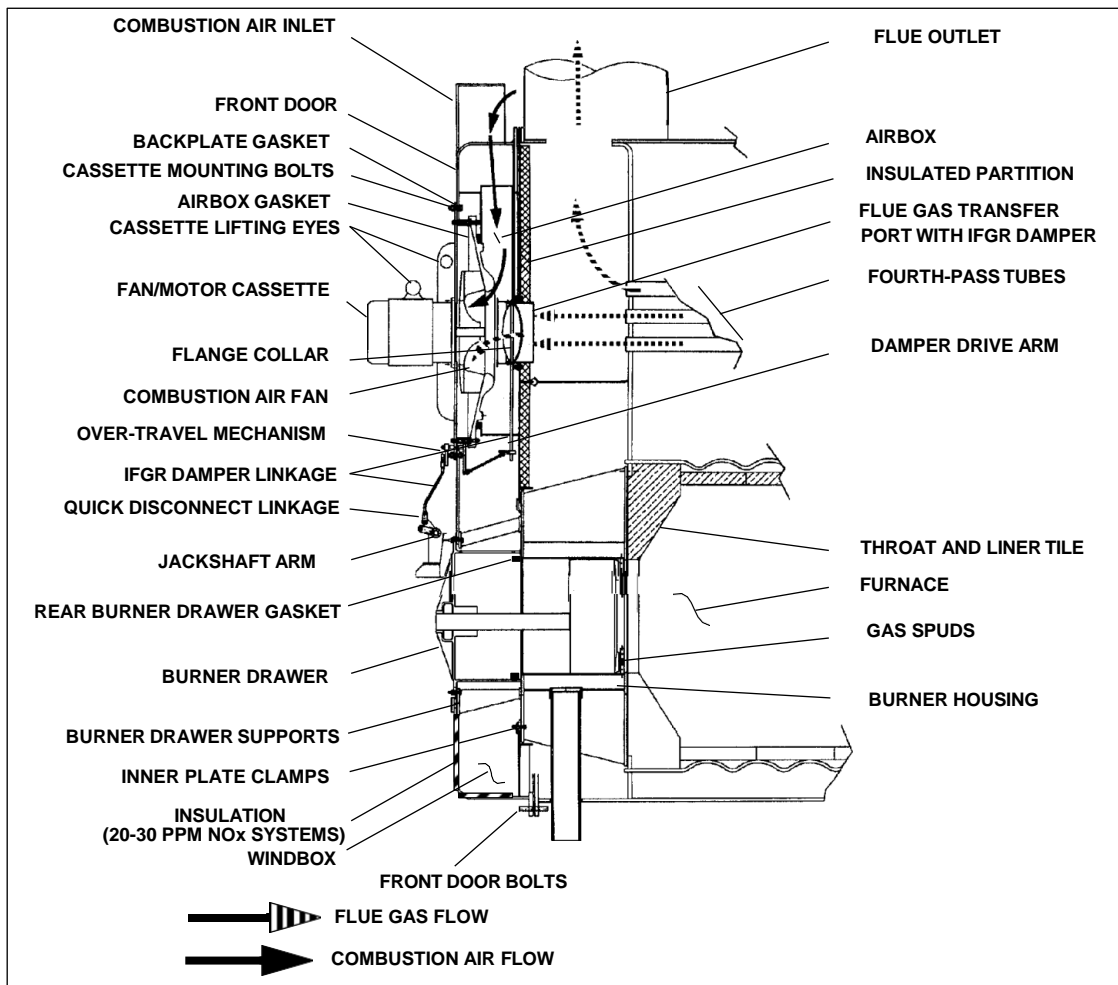

Figure: 1-14 Induced Flue Gas Recirculation System, General Arrangement
1. Flue Gas Transfer Port, IFGR Damper, and Flange Collar (Figure 1-14). The flue gas transfer port is a tube that allows the flue gases to travel from the exit of the fourth-pass tubes to the entrance of the combustion air fan.
3. Over-Travel Mechanism (Figures 1-14 and 1-15). The over-travel mechanism has two functions. It allows the linkage to pass through the front door, and it allows jackshaft rotation to exceed (over travel) IFGR linkage
6. Burner Drawer (Figure 1-14). The gas spudding pattern for the IFGR system may be different than that of a non-IFGR, High-Turndown CB Burner of the same horsepower (HP) model designation.
7. Combustion Air Inlet (Figure 1-14). The combustion air inlets are located at the top of the front door. Air enters from the rear of the air inlet shrouds, which reduces the
8. Front Door Insulation (Figure 1-14). If NO_x emissions are below 60 PPM, the front door is insulated inside to control temperature build up. The insulation is held in place with wire mesh.